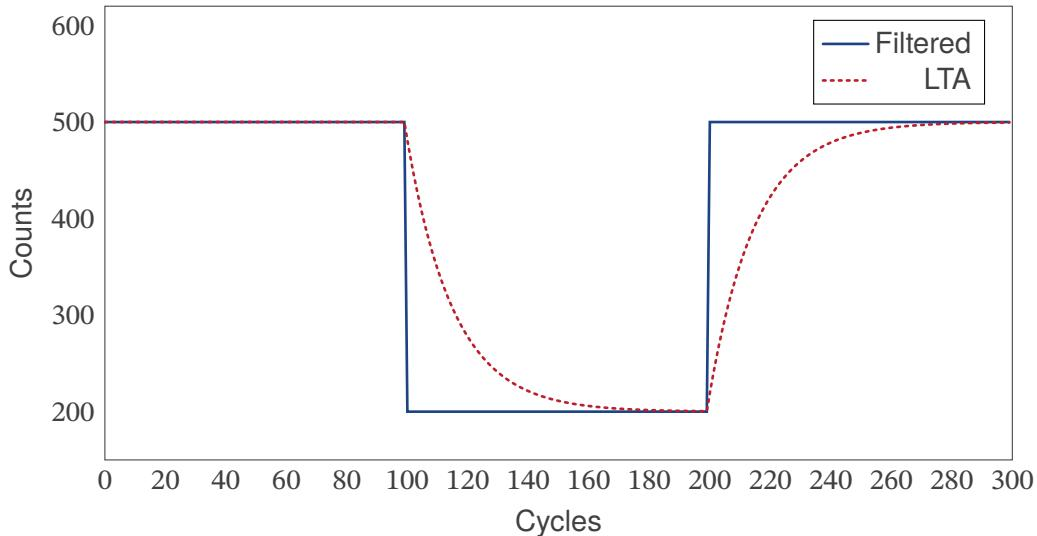
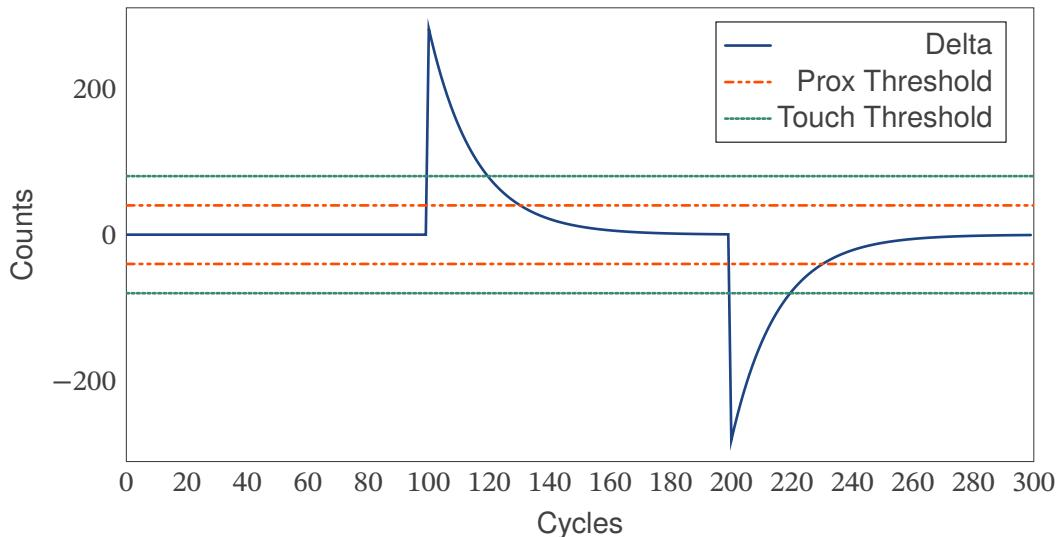

Figure 6.1: Channel Filtered Counts and LTA Response during a Touch Event, with the Release UI Enabled
Figure 6.2: Channel Delta Response during a Touch Event
Touch and proximity events are triggered when the channel **delta** exceeds the thresholds configured in the **proximity** and **touch** threshold parameters. The sign of the delta will determine the value of the direction flag under **touch event states**. An example of the touch channel's filtered, LTA, and delta response for an LTA beta of 4, and with the release UI enabled, is displayed in Figure 6.1 and Figure 6.2.
**Note:** Figure 6.1 and Figure 6.2 only displays the behaviour of the device with the release UI enabled.
The button UI of the device can sense both touch and release user interactions. The **release UI** bit will determine the behaviour of the reference channel during touch. If the bit is set the device will continue to update the reference channel of the device during a touch event. This will result in a positive touch delta when a touch event occurs and will result in a negative touch delta if a release event occurs. This can be viewed in Figure 6.2.